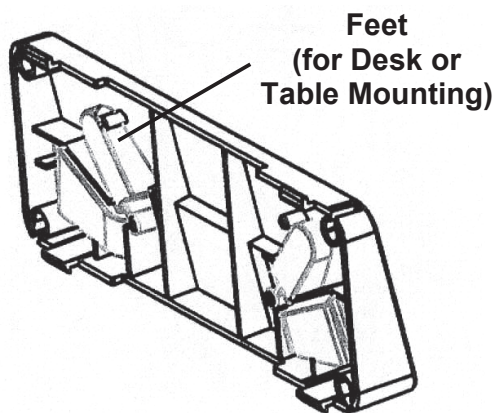

Figure No. 6
7. Referring to Figure No. 6, make sure the four (4) feet of Wall Bracket "A" are placed in the bracket.